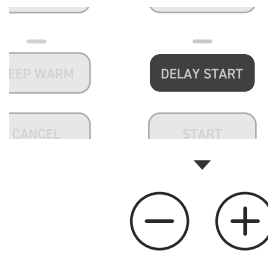

Figure 9.1
3. Press the **-** or **+** buttons to adjust the delay start timer from 10 minutes (00:10) to 24 hours (24:00). [Figure 9.1]